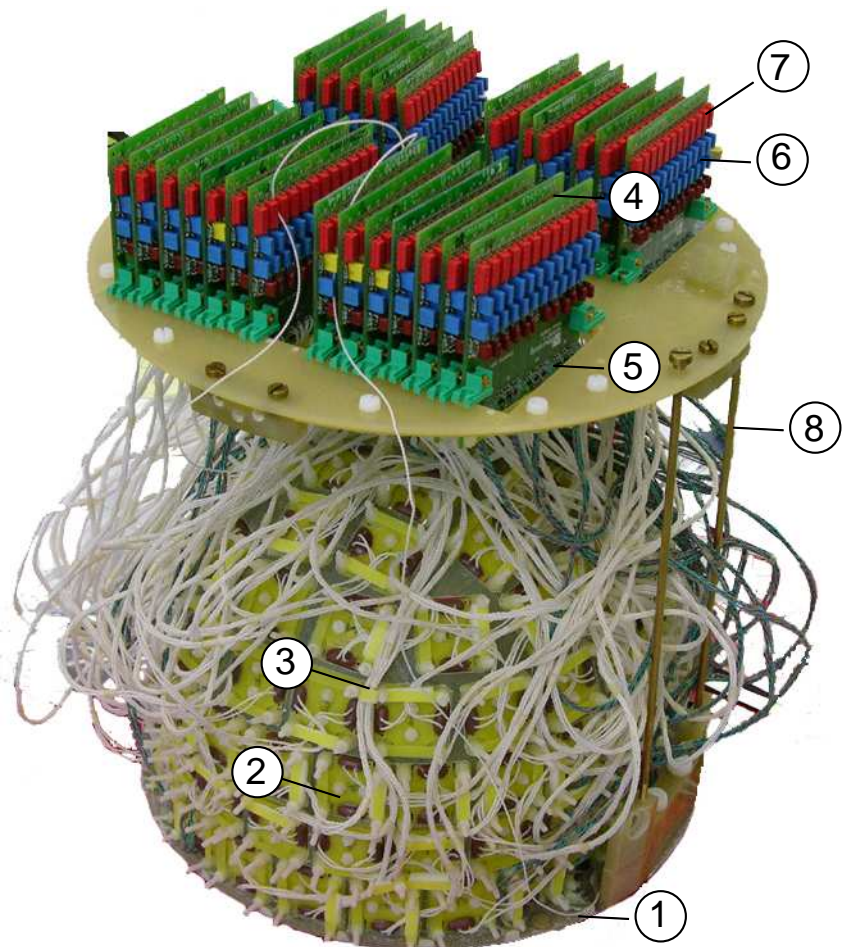
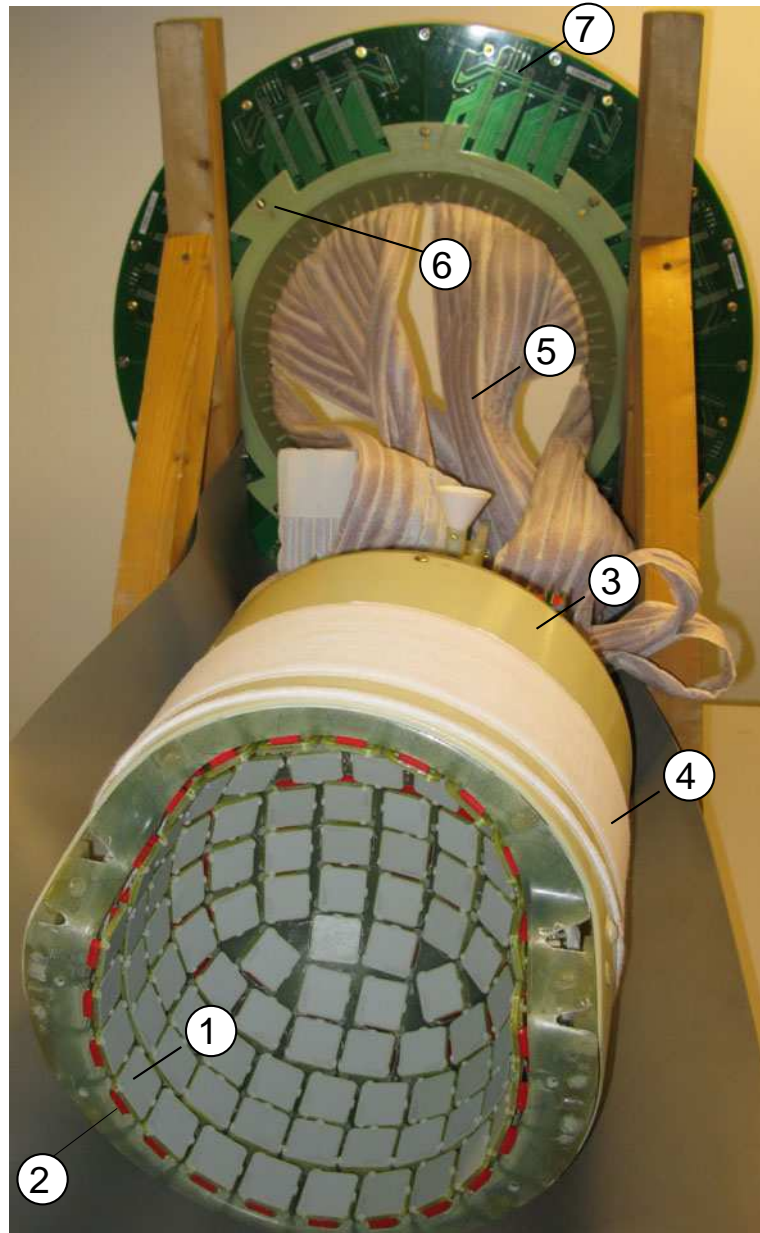
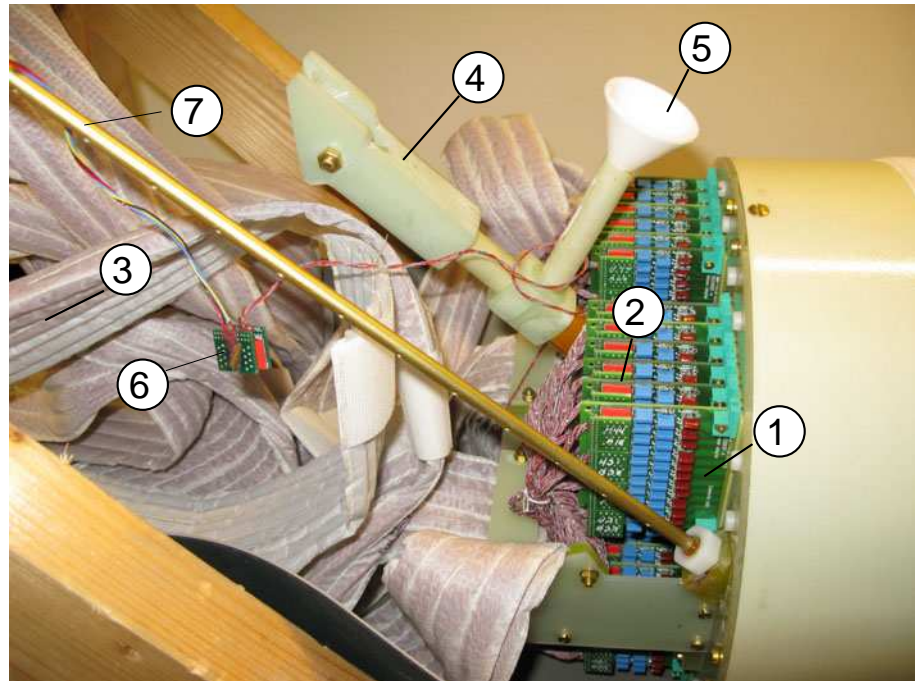

Figure 2.3 Wiring unit
Figure 2.4 Sensor insert
Figure 2.5 Middle section of the insert
The wiring unit (see Figure 2.3 and Figure 2.5) consists of a helmet-shaped support for the elastically mounted sensor sockets, wiring from sensor sockets to sensor adaptor boards, sensor adapter boards, and a protective shell (also acting as a spring). The protective shell has a sealing ring (see Figure 2.4) to prevent eventual solidified oxygen from entering near the sensors. The support rod locks the wiring unit firmly on its place to prevent mechanical vibrations of the sensor array. A liquid helium level probe is also mounted on the wiring unit (see Figure 2.5).
The sensor adapter boards (see Figure 2.3 and Figure 2.5) contain the feedback resistors, passive radio frequency (RF) filtering components, and the field effect transistors (FETs) for the amplifier noise cancellation. Each sensor adapter is connected to four sensor sockets. Therefore, each sensor adapter has 12 channels. There are 26 sensor adapter boards plus one auxiliary board for the liquid helium level sensor and the thermometer resistors. Each sensor adapter board connects to a corresponding preamplifier (also 12 channels).
The cable assemblies connecting the room-temperature parts and the sensor adapter boards (see Figure 2.4) are made of resistive wires to minimize thermal conduction from room temperature to the liquid helium bath. The cables are mounted inside textile supports and they run from the sensor adapter boards to the insert top flange.